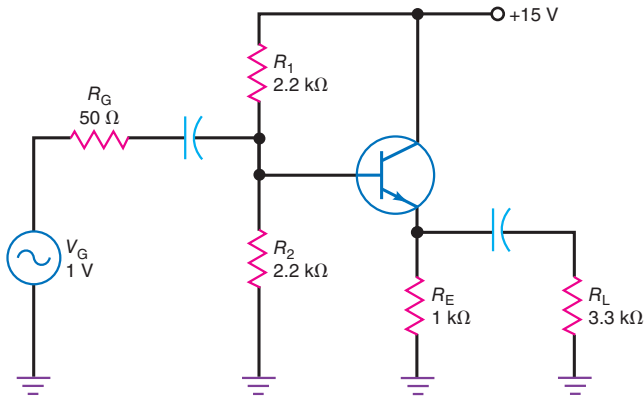

Figure 33-56
- 33.19 In Fig. 33-56, what is the input impedance of the base if $\beta = 200$? The input impedance of the stage?
- 33.20 If $\beta = 150$ in Fig. 33-56, what is the ac input voltage to the emitter follower?
- 33.21 What is the voltage gain in Fig. 33-56? If $\beta = 175$, what is the ac load voltage?